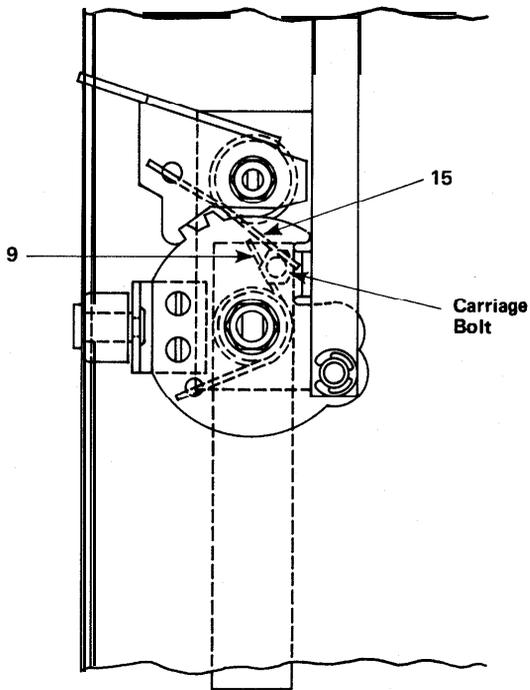

FIGURE 5
- A. the handle, cam plate, lockwasher and 1/2-13 nut; items 8, 10, 11, and 12 respectively.
- B. the two mounting rings, item 4, and
- C. the face plate, item 3.
3. Insert the remaining portion of the handle assembly consisting of items 1, 2, 13, 14, 15, 16, 17 and 18, through the mounting holes in the door and fasten with the face plate, item 3, and mounting rings, item 4.
4. Install the #10 carriage bolt, item 5, with the lockwasher and nut, items 6 and 7. Position the straight arm of the release lever spring, item 15, on the side of the carriage bolt shown in Figure 5.
5. Replace the handle, item 8. Place the cam plate spring, item 9, into position with the straight arm on the side of the carriage bolt as shown in Figure 5. Position the spring arm behind the nut and against the lockwasher on the carriage bolt. Engage the formed arm of the cam spring with the cam plate, item 10, and with the handle turned to the normal open position twist the cam plate approximately 1/4 turn clockwise (counterclockwise on Catalog Number 1494V-LL1) and drop it over the handle shaft. Fasten the cam plate with the 1/2" (12.7) lockwasher and nut, items 11 and 12.
6. Assemble "O" ring, item 19, and the pivot plate standoff, item 20, to the door with the screw and lockwasher, items 21 and 22.
7. Place the pivot plate, item 23, over the pivot plate standoff and fasten with flat washer, lockwasher and 1/4-20 nut, items 24, 25 and 26. **Note:** Steps 6 and 7 are the same for the third roller assembly, Catalog Number 1494V-L2, when used.
8. Secure the locking bar, item 27, to the pivot plate(s), item 23 and the cam plate, item 10, with the pivot pins, item 28, and the retaining rings, item 29.
9. Fasten the defeater actuator, item 30, to the locking bar with the two #10 lockwashers and 10-24 x 5/16" screws provided, items 31 and 32.
10. Fasten the roller assemblies, item 33 to the pivot and cam plates with the 10-32 x 1/2" screw assemblies, item 34. Nominal enclosure dimensions will require one (1) 1/8" (3.2) shim for each roller assembly.